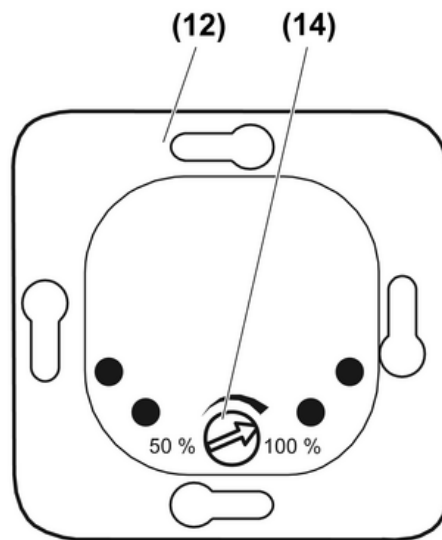

Figure 6
- Adjust potentiometer (14) (Figure 6).